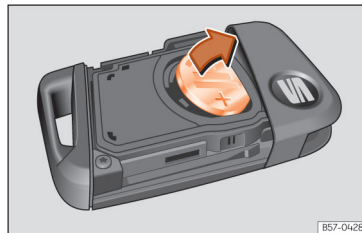

Fig. 88 Vehicle key: removing the battery.
- Lever the battery out of its compartment »» Fig. 88.
- Fit a new button battery into the compartment »» ❶.